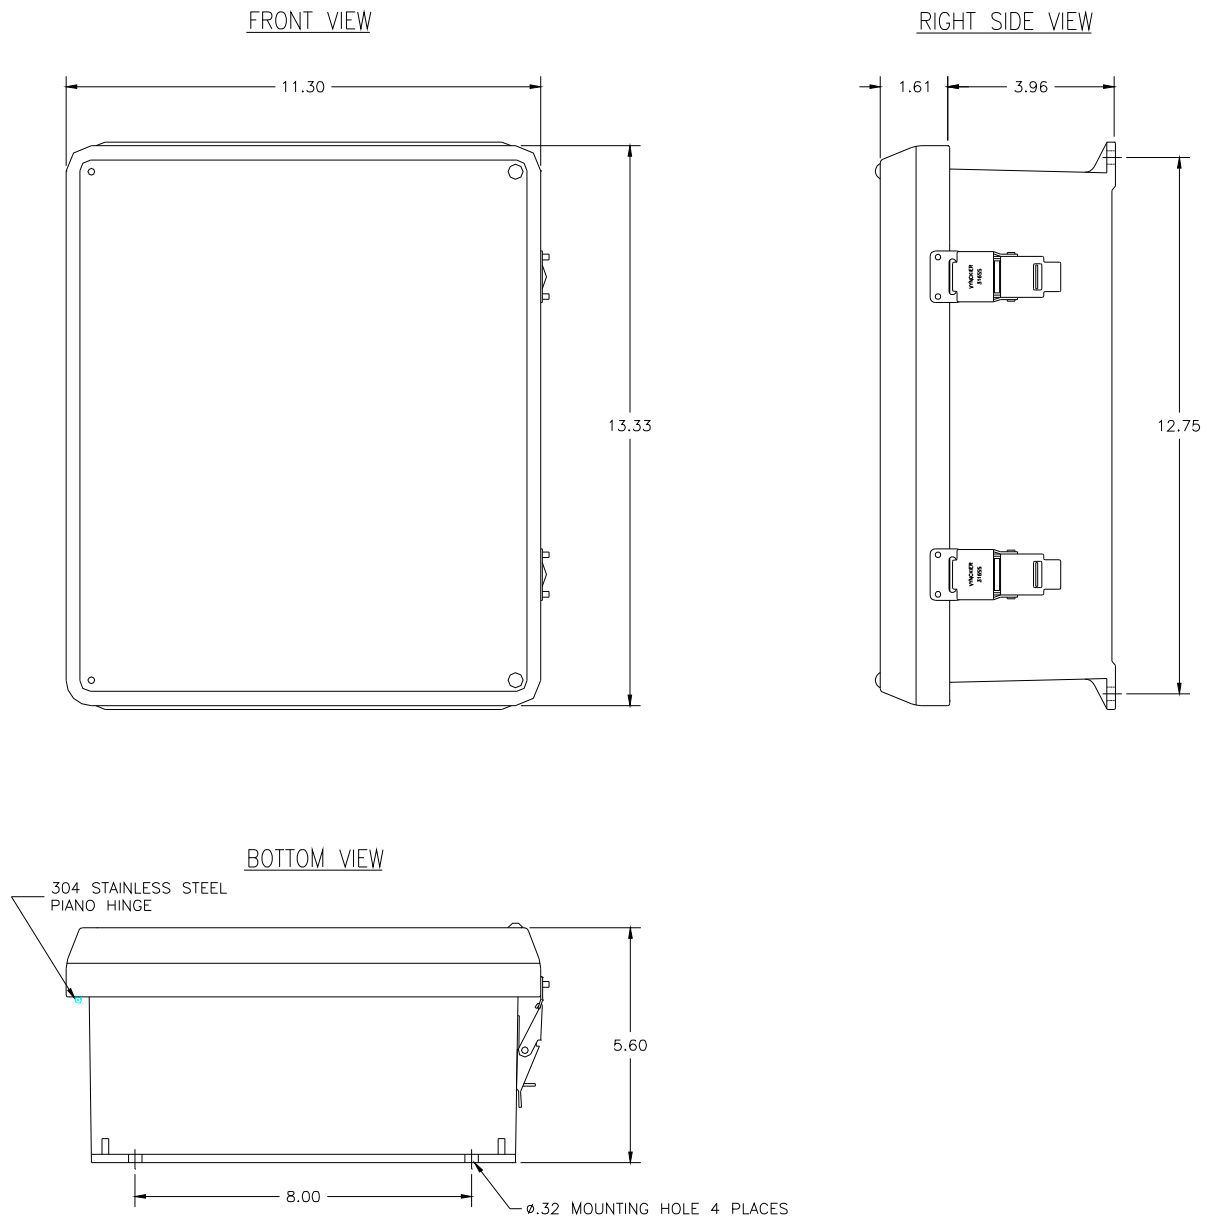

Figure 3-4 – Enclosure Mounting Footprint
The base of the unit has four (4) mounting feet as shown in Figure 3-4. Mounting hardware is not included.